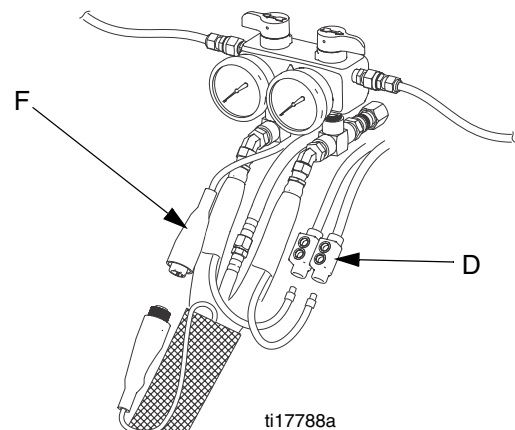

FIG. 9. Heated Hose
3. Disconnect hose connector (D) at Reactor, FIG. 9.
4. Using an ohmmeter, check between the two terminals of the connector (D). There should be continuity.
3. Disconnect FTS cable (F) at Reactor, FIG. 9.